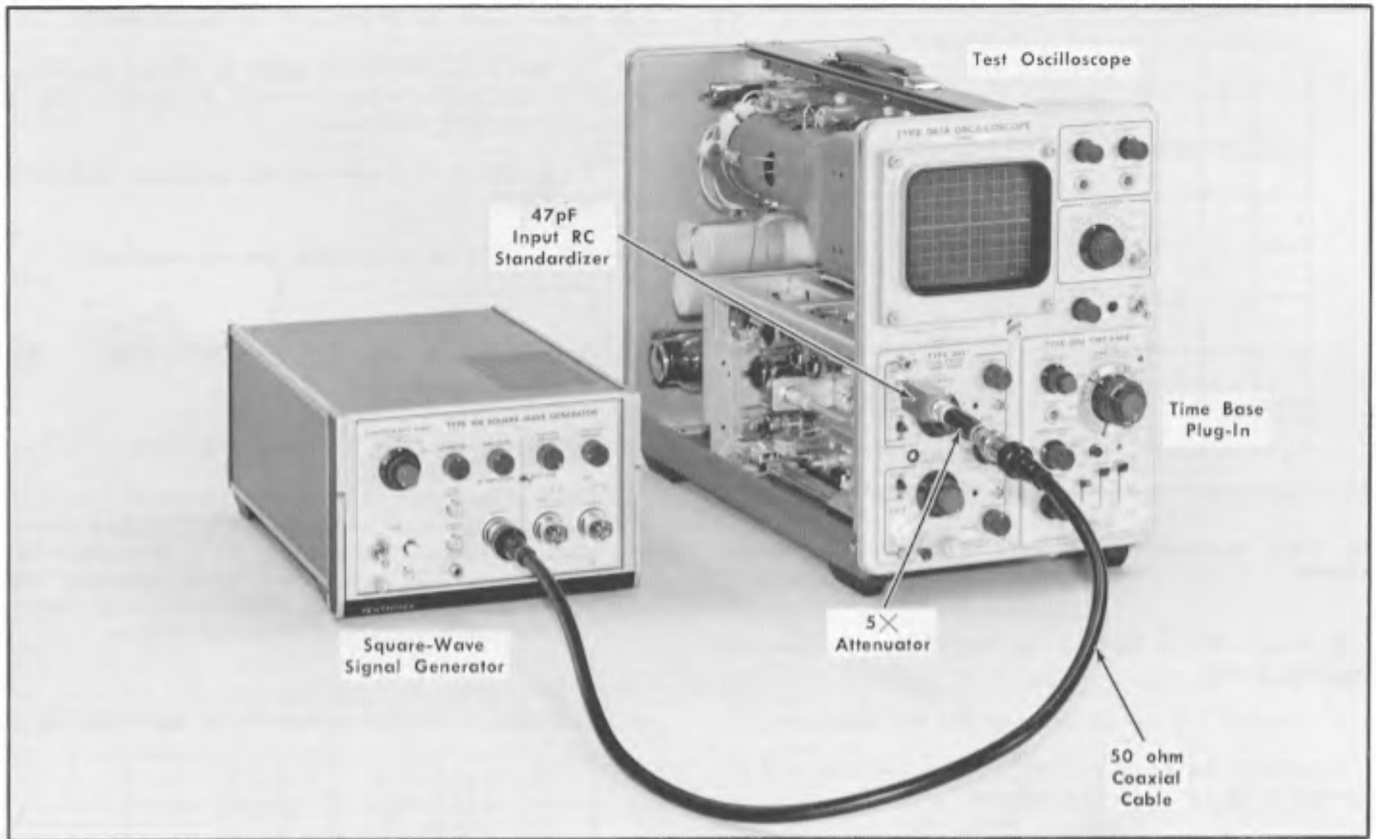

Fig. 7-14. Test equipment setup for steps 13 and 14.
- a. Test equipment setup is shown in Fig. 7-14.